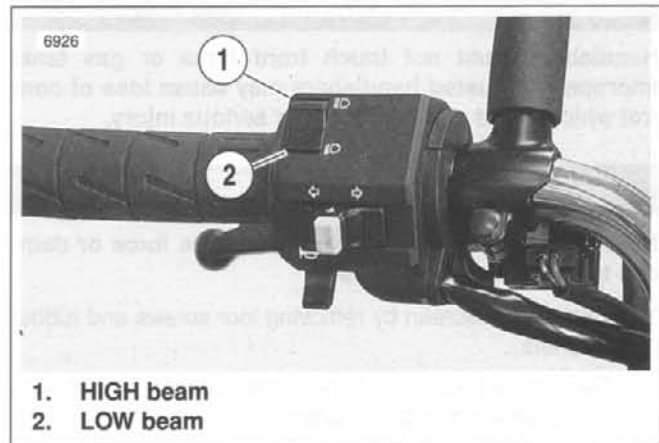

Figure 1-72. Headlamp Switch
7. See Figure 1-72. Turn ignition switch to IGN. Set handlebar headlamp switch to HIGH beam position (1).